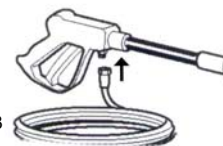

Fig. 3
2. Then ensure that the other end of the high pressure hose is fastened securely to the trigger gun. (Fig. 3)